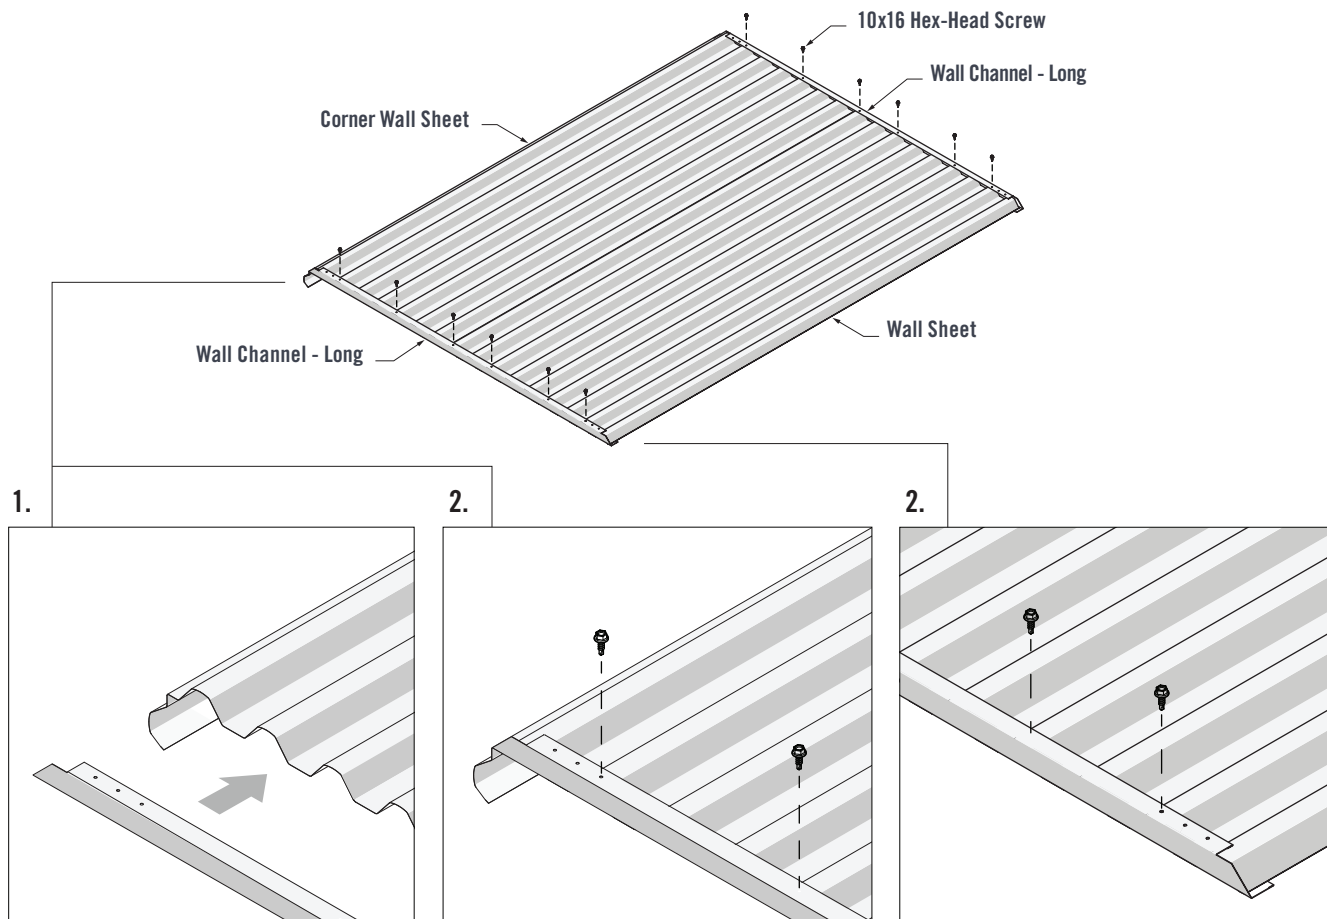

FIGURE 3.2
1. Fit the Wall Channel (Short) over the lapped Wall Sheets. The end of the Wall Channel should fit up against the end of the Corner Wall Sheet (Figure 3.2).
2. Fasten through the third pilot hole of both Wall Channel ends and into the Wall Sheet crests. Fasten through the Wall Channels and into every third Wall Sheet crest using four 10x16 Hex-Head Screws in each Wall Channel (Figure 3.2).